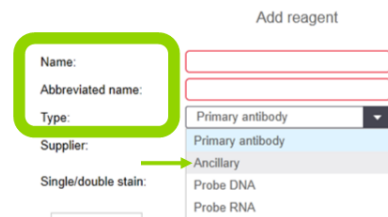

Figure 29: Add reagent window
- In the **Add Reagent** window (see Figure 29), enter a unique name in the **Name** field.